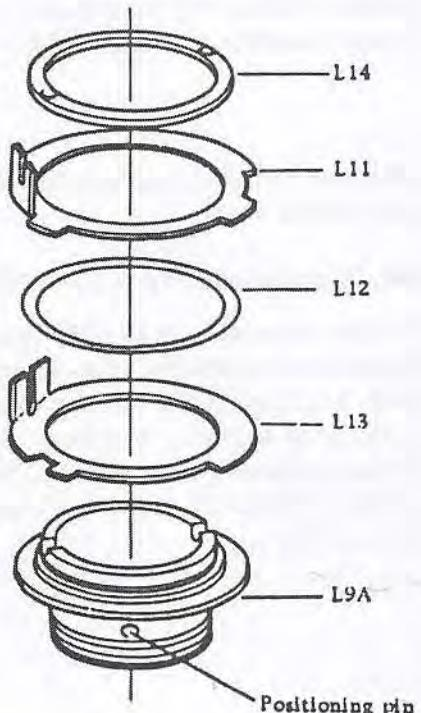

Fig. 3
B. Remove the tightening ring (L14) with the Tool (L10-TA1), and remove the shutter set ring (L11), ring washer (L12), and release ring (L13). Fig. 3
A. Install the set ring (L11), washer (L12), and release ring (L13) on the shutter installation seat (L9A), and tighten the tightening ring (L14) with the Tool (L10-TA1). Fig. 3
B. When the shutter installation seat (L9A) does not operate effectively, check and correct each ring for warping, or apply Molicoat grease and smooth the operation. Fig. 3